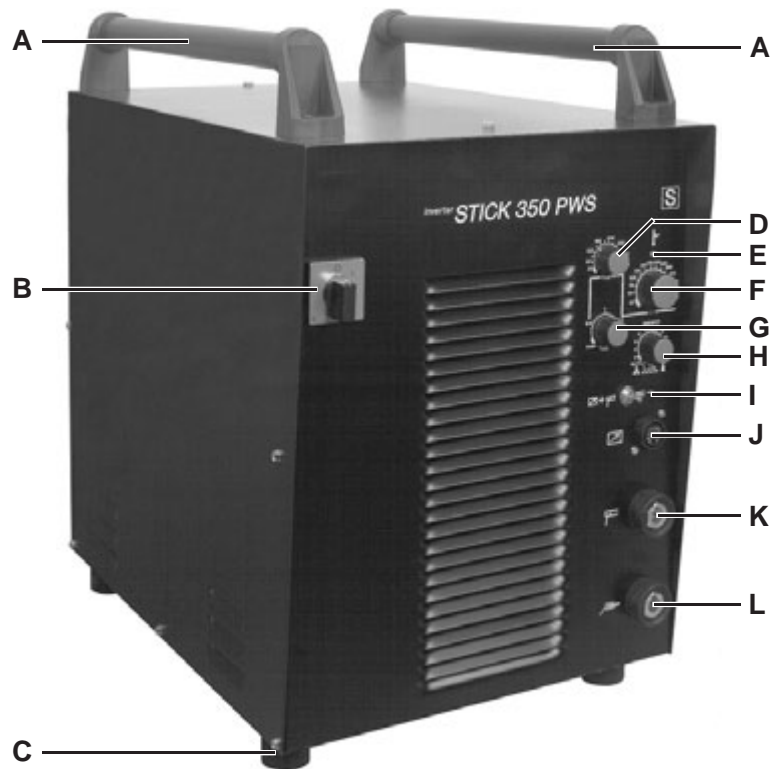

Fig. 1: Front view *Inverter* STICK 350 PWS
e.g. **(C1)** means: Item C / Figure 1 in the respective Section
e.g. **(Sect. 3, C1)** means: in Section 3 Item C / Figure 1